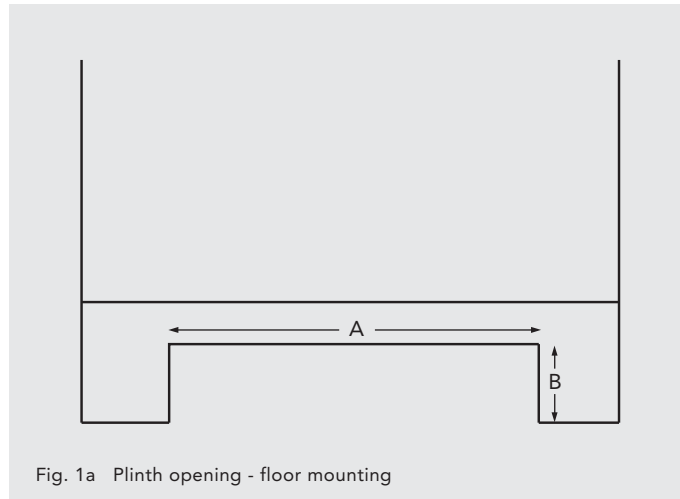

Fig. 1a Plinth opening - floor mounting
- Decide the position of the KICKSPACE®, mark out and cut the plinth to the dimensions of Fig. 1a (floor mounting) or 1b (plinth mounting).